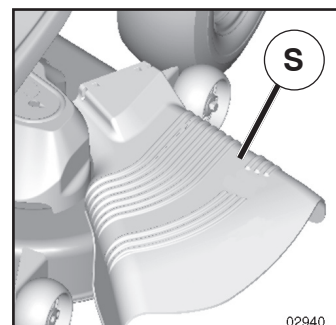

Fig. 12
CAUTION: Do not operate the mower without either the entire grass catcher, on mowers so equipped, or the deflector chute (S) in place (See Fig. 12).